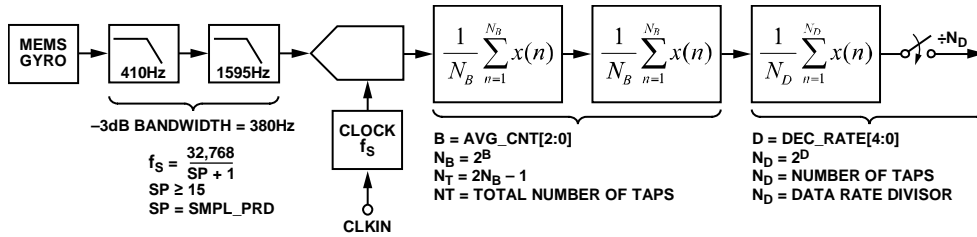

Figure 18. Sampling and Frequency Response Block Diagram
The GYRO_OUT2 register (see Table 11) captures the bit growth associated with the decimation and FIR filters that are shown in Figure 18 using a MSB justified format. The bit growth starts with the MSB (GYRO_OUT2[15]), is equal to the decimation rate setting in DEC_RATE[4:0] (see Table 18), and grows in the LSB direction as the decimation rate increases. See Figure 14 for more details.
Figure 18 provides a block diagram for the sampling and digital filter stages inside the ADIS16136. Table 15 provides a summary of registers for sample rate and filter control.
| [15:0] | Clock setting bits; sets f_s in Figure 18 |
The AVG_CNT register (see Table 17) provides user controls for the low-pass filter. This filter contains two cascaded averaging filters that provide a Bartlett window FIR filter response (see Figure 18). For example, set AVG_CNT[7:0] = 0x04 (DIN = 0xA004) to set each stage to 16 taps. When used with the default sample rate of 1024 SPS, this establishes a -3 dB bandwidth of approximately 24 Hz for this filter.
| [2:0] | Binary; B variable in Figure 18; maximum = 110 (6) |
The DEC_RATE register (see Table 18) provides user control for the final filter stage (see Figure 18), which averages and decimates the output data. For systems that value lower sample rates, this filter stage provides an opportunity to lower the sample rate while maintaining optimal bias stability performance. The -3 dB bandwidth of this filter stage is approximately one half the output data rate. For example, set DEC_RATE[7:0] = 0x04 (DIN = 0xA204) to reduce the sample rate by a factor of 16.
| [4:0] | Binary; D variable in Figure 18; maximum = 10000 (16) |